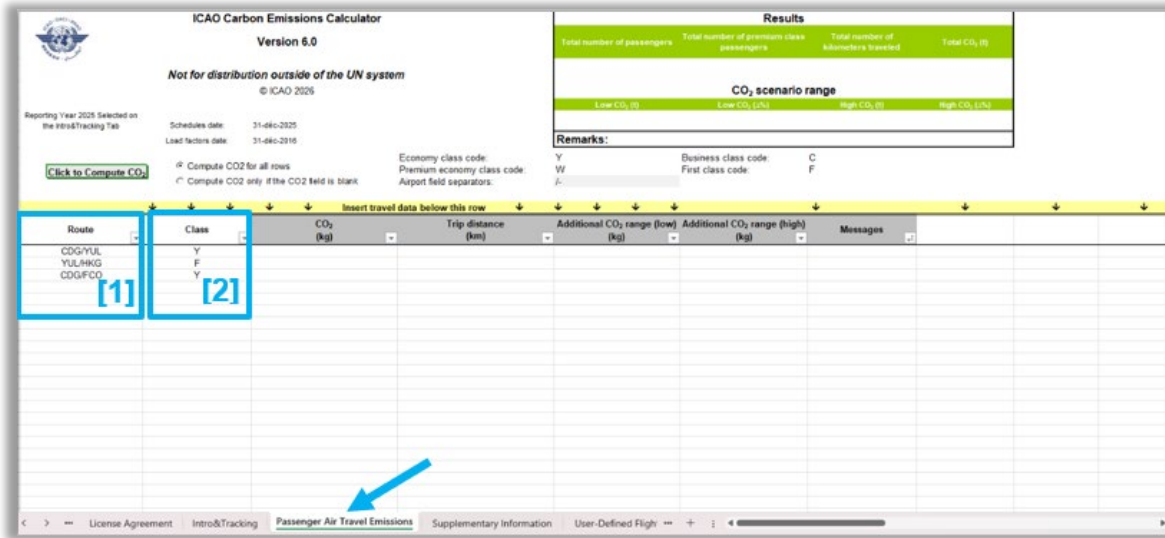

Figure 5. Passenger Air Travel Emissions Tab.
- i. Open the Tab titled “Passenger Air Travel Emissions” (see Figure 5).
- ii. Starting from row 14, enter your route pairs (see [1] area in Figure 5) and cabin class (see [2] area in Figure 5), using the following cabin class codes: